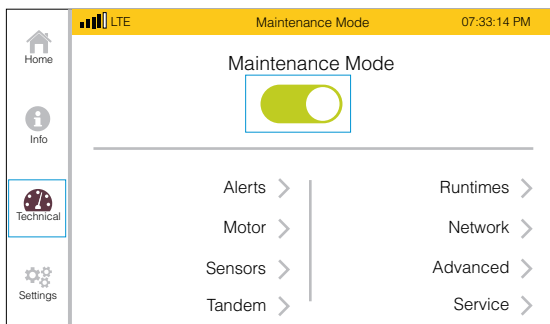

FIGURE 45. ENABLE MAINTENANCE MODE
- On the control panel LCD display, go to the Technical screen. Press **MAINTENANCE MODE (FIGURE 45)**.